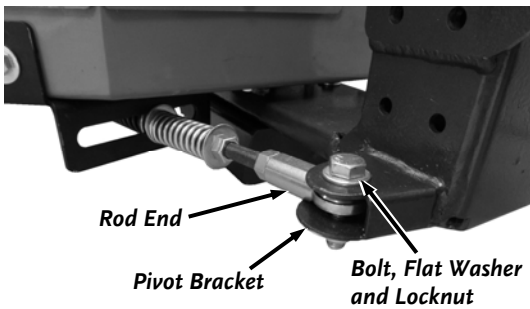

Figure 4
2. Remove the Bolt, Flat washer and Locknut that is installed on the Pivot Bracket using two 3/4" Wrenches (**Figure 4**).